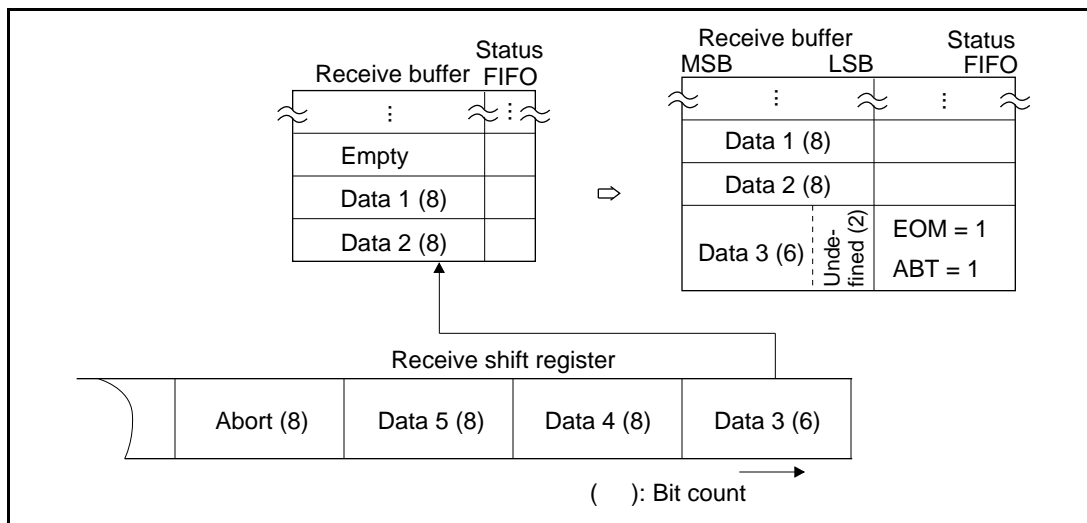

Figure 5.4 Abort End Frame Reception Operation (CRCCC = 1)
Abort end frame reception operation: An abort end frame reception operation is shown in figure 5.4. Abort end frame data is transferred from the receive shift register to the receive buffer, and the abort end frame status is set in the status FIFO.
1. Part of the aborted data (data 3 in figure 5.4) is transferred from the receive shift register to the receive buffer. (Data 4 and 5 in figure 5.4 are not transferred to the receive buffer.) At this time, the bits other than this data are undefined. However, during abort frame reception in bit synchronous mode, if a zero is inserted in the character immediately before the abort frame, the preceding 17 bits of data will be discarded. As a result, the three bytes of data before the abort frame are not received correctly.